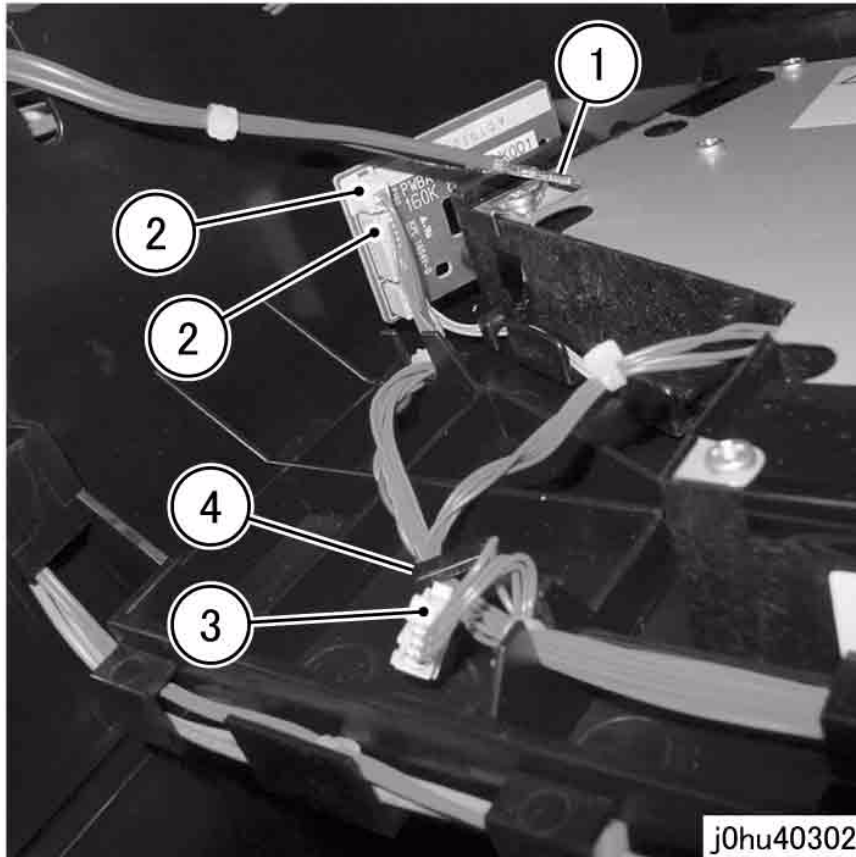

Figure 3 Disconnect ROS Connectors
6. Disconnect the ROS connectors (Figure 3).